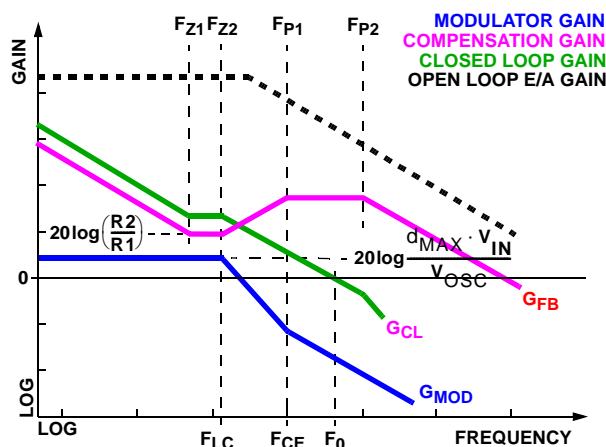

FIGURE 10. ASYMPTOTIC BODE PLOT OF CONVERTER GAIN
Figure 10 shows an asymptotic plot of the DC/DC converter's gain vs. frequency. The actual Modulator Gain has a high gain peak dependent on the quality factor (Q) of the output filter,
which is not shown. Using the above guidelines should yield a compensation gain similar to the curve plotted. The open loop error amplifier gain bounds the compensation gain. Check the compensation gain at F_{P2} against the capabilities of the error amplifier. The closed loop gain, G_{CL} , is constructed on the log-log graph of Figure 10 by adding the modulator gain, G_{MOD} (in dB), to the feedback compensation gain, G_{FB} (in dB). This is equivalent to multiplying the modulator transfer function and the compensation transfer function and then plotting the resulting gain.